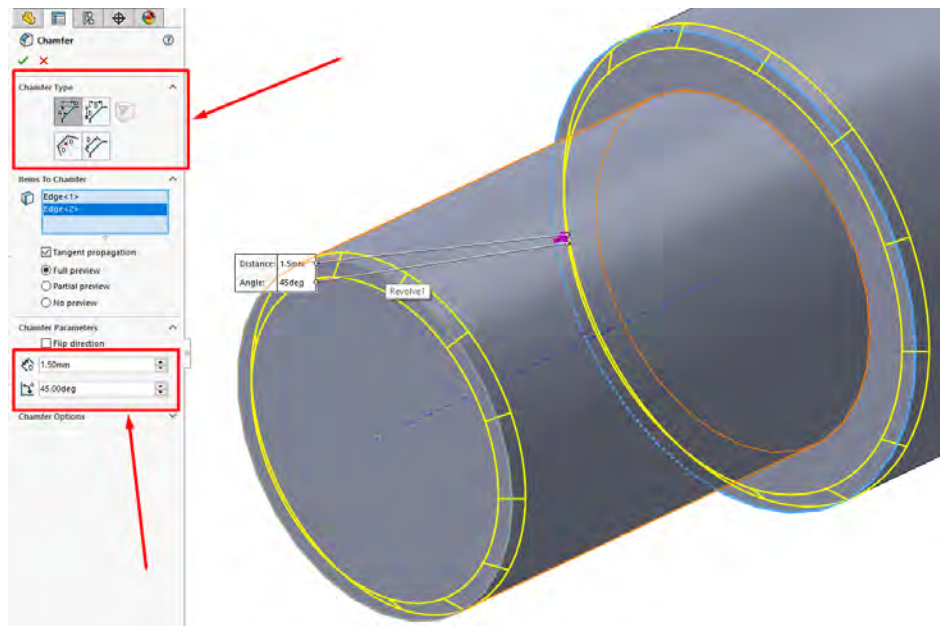

Figure 19 – Specifying chamfer parameters using the Chamfer command
- Select the edges or corners where you want to create a chamfer (Fig. 19).